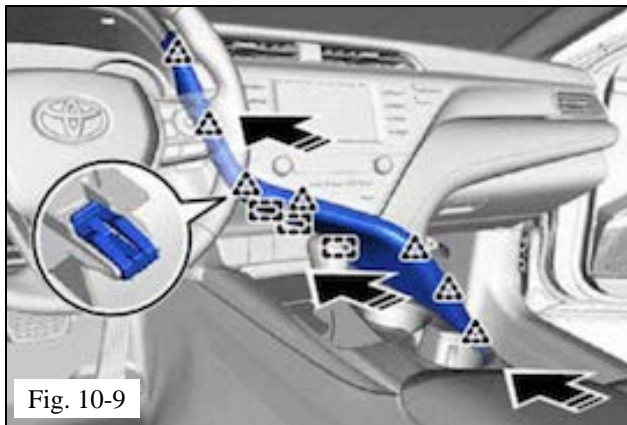

Fig. 10-9
(1) Connect each connector
(2) Engage the 3 guides and 7 clips to install the No. 1 meter hood cluster (Fig. 10-9).